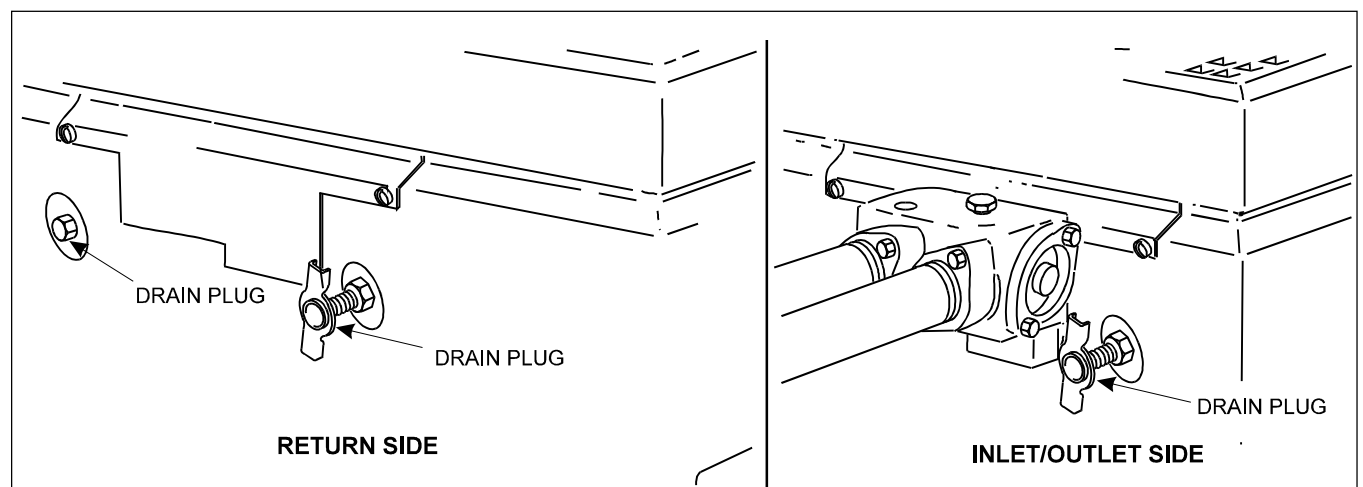

Figure 18. Heater Drain Locations
4. Remove the drain plug from the return side (see Figure 18), loosen the drain plug from the inlet-outlet side, and completely drain the heater before the first frost.